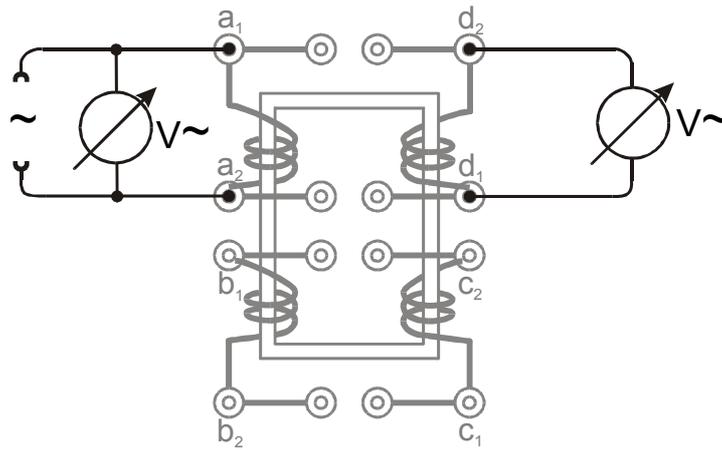

Figure 1.5: Scheme of an insulating Transformer
- Figure 1.5 shows the setup of an insulating transformer.